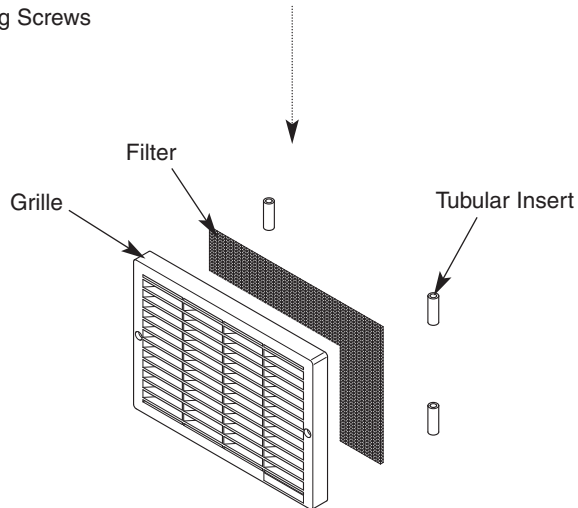

Fig. 13
5. Pull the four tubular inserts out of the rear of the grille and remove the filter (Fig. 13).